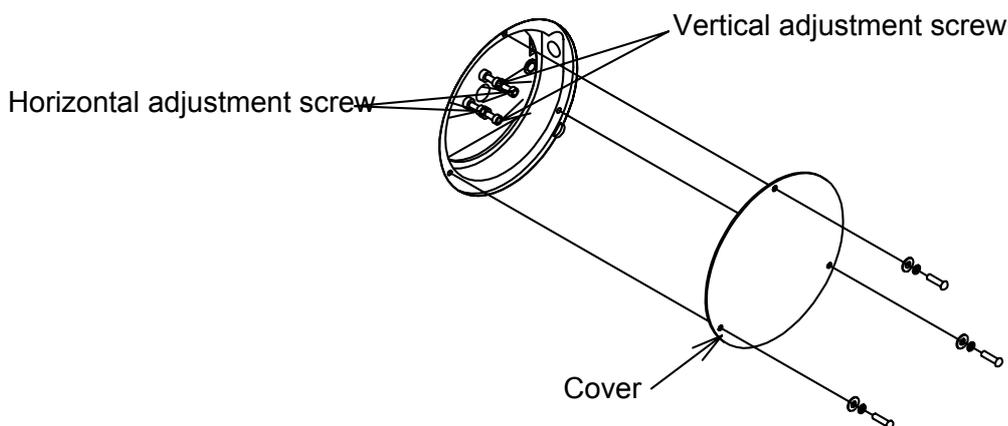

Fig. 4.4 Mirror adjustment screw
- (11) Remove the cover from the  $M_0$  and  $M_1$  mirrors. The adjustment screw shown in Fig. 4.4 will be visible.